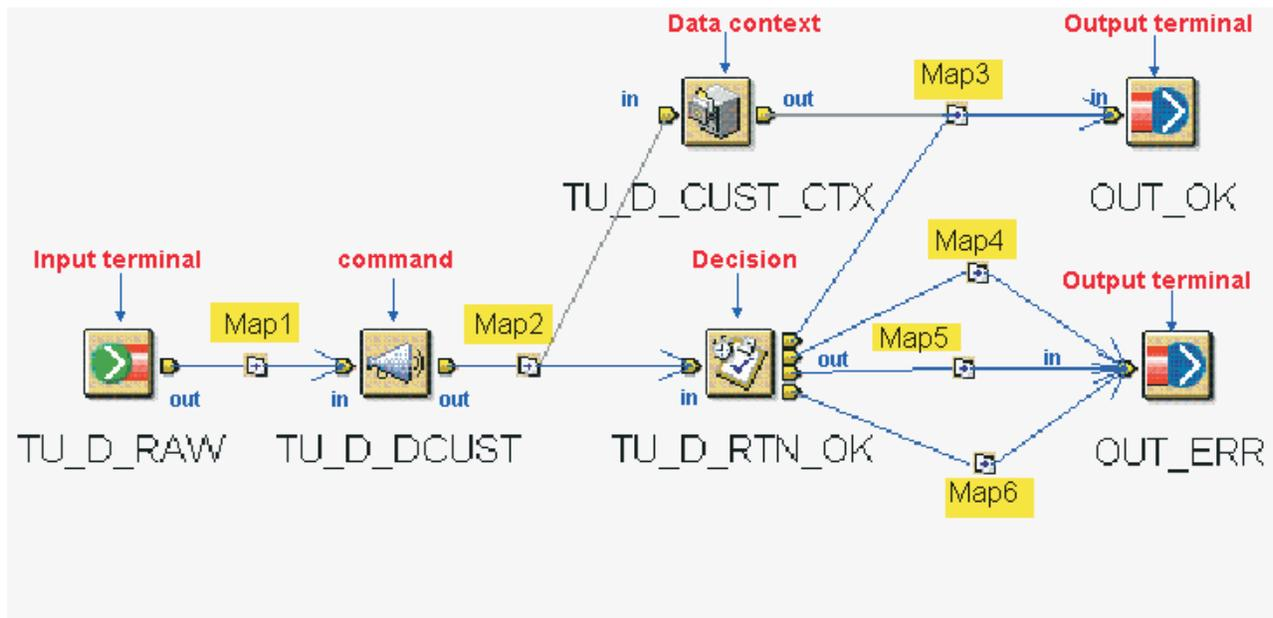

Figure 9. Components that make up the DPL adapter you will build
In this tutorial you will learn how to design and build an adapter (as displayed in Figure 9 on page 17 ) that when deployed will perform the following functions:
- Accept the structure TU\_D\_RAW from the Simulator (in this tutorial the Simulator functions as the controlling application). TU\_D\_RAW is the input record description from the controlling application. See Input Terminal in Figure 9 on page 17.
- Map individual fields from TU\_D\_RAW to expected and required DPL program Commarea format. See Map1 in Figure 9 on page 17.
- After the completion of the DPL link function, map response message from DPL program to store any customer demographic information that is supplied by the backend CICS application (DFHMABP4) in the data context area named TU\_D\_CUST\_CTX. See Map2 in Figure 9 on page 17.
Use this table in conjunction with Figure 9 on page 17